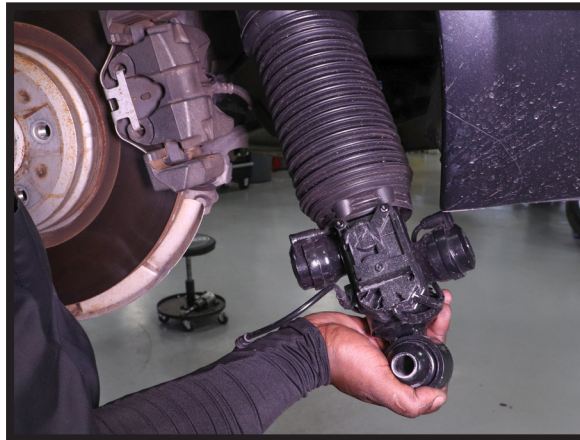

FIGURE 19
1. INSTALL THE NEW AIR STRUT INTO THE VEHICLE. (FIGURE 19)